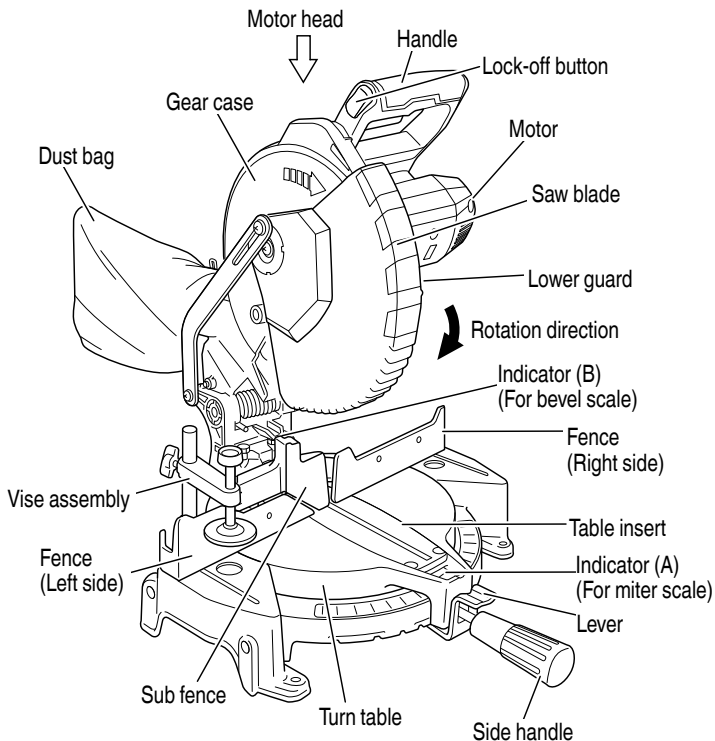

Fig. 2
8. Installing the dust bag, holder, stopper and vises (The holder and stopper are optional accessories.) Attach the dust bag and vise assembly as indicated in Fig. 2 and Fig. 3.